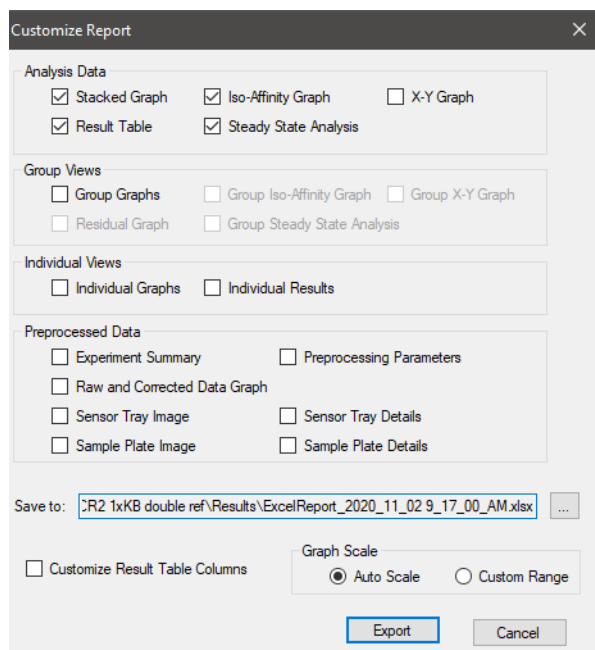

Figure 5-52: Excel Report Export Options
- Click  (**Excel Report**) to export the processed (corrected) data for your experiment or combined data set in .xlsx format. Select which experimental components to export, use the default report name or click ... to specify another name/location, then click **Export** (Figure 5-52).